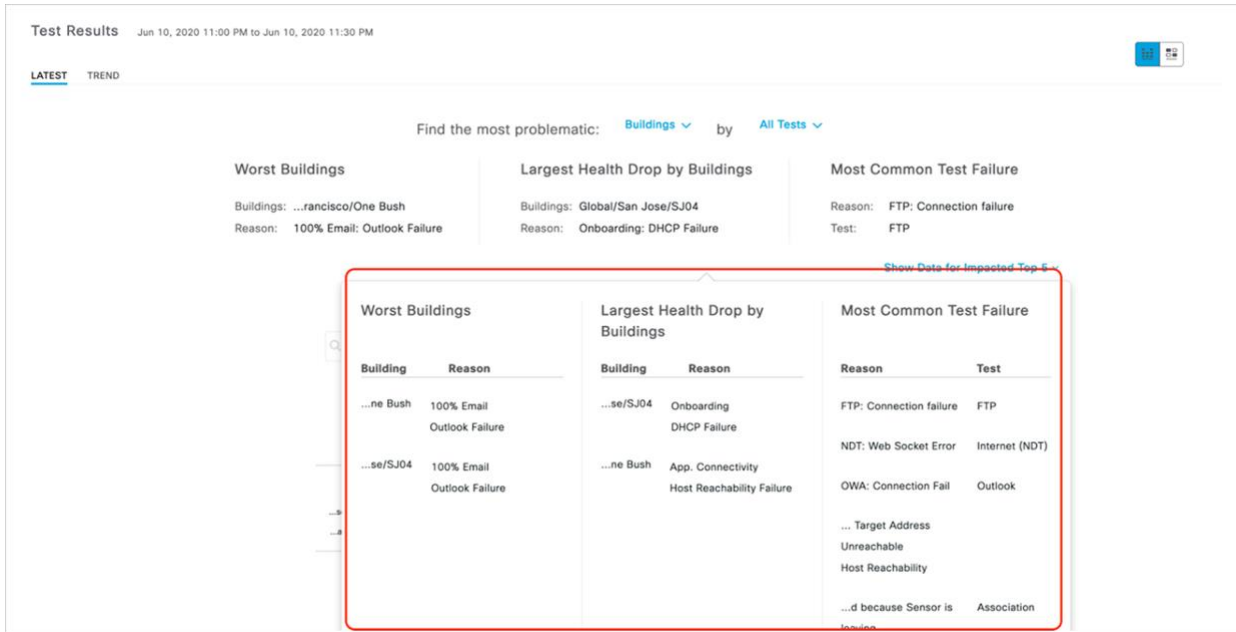

Figure 91.
- u. Click Show Data for Impacted Top 5 to view the worst buildings, largest health drop by buildings, and most common test failure (**Figure 91.**).